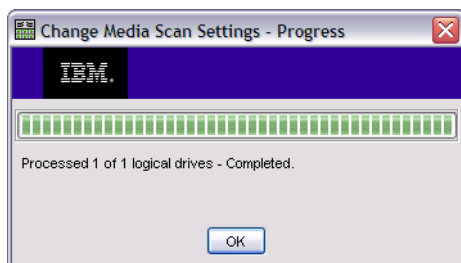

Figure 12-23 Change Media Scan Settings completed
- The changes will be saved on the storage subsystem, and you are informed (Figure 12-23) when it is completed. Click **OK** to return to the Tools tab.